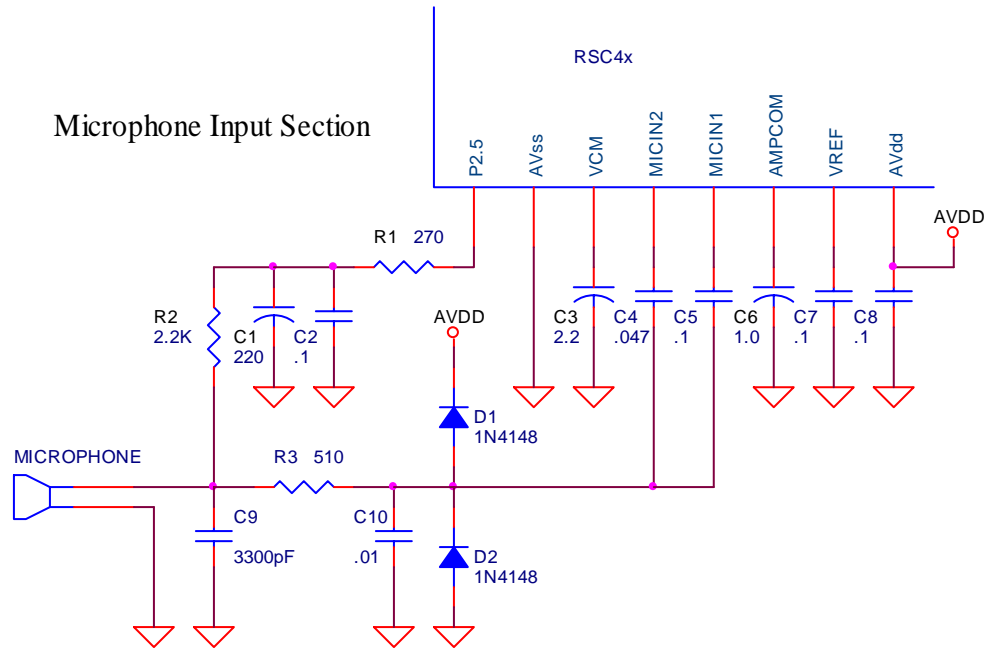

Figure 4 -- Diagram for Analog Section
1. **Reference Circuit** - The diagram in Figure 4 shows the microphone input circuit and the required external components and their connections to the RSC4x for the internal pre-amplifier circuit. The components for each circuit are listed in Table 1 and Table 2.
1. **Separation of digital and analog** - The circuit board should be physically organized to allow the largest practical separation of the analog from the digital portions of the system. All of the grounds shown above in figure 4 are analog. They should be kept separate from all other grounds. The analog and digital grounds should only meet up at the main ground source (usually a battery or regulator). This technique is commonly referred to a “star grounding”. Digital traces can be made around the power traces and the data line traces, but should avoid analog traces.
- o The RSC4x to be tested with recommended microphone circuitry as show in Figure. 4,